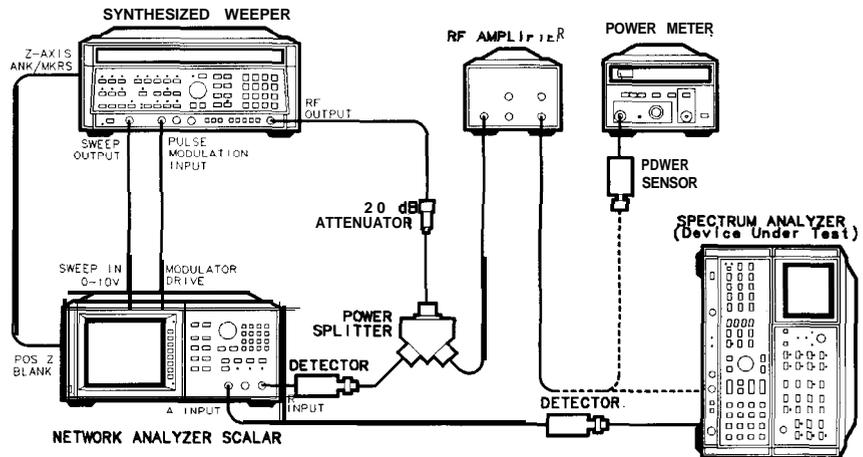

Figure 3-72. Second Converter Adjustments Setup
2. Position instrument on right side as shown in Figure 3-72 with the RF Converter removed but with cables still connected.
31. Connect the synthesized sweeper's output to the power splitter as shown in Figure 3-72.
34. On the synthesized sweeper, press **[PULSE]** (ON), **[MKR SWEEP]**, and **[ΔF]**. Set **[SWEEP TIME]** to 500 ms.